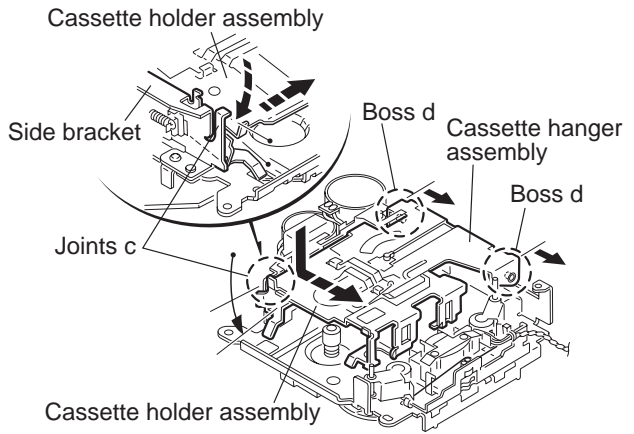

Fig.4
- (1) Remove the E-washer attaching the load arm.
- (2) Move the load arm in the direction of the arrow and release the joint **b** on the cassette catch.
3.2.3 Removing the cassette hanger assembly / cassette holder (See Fig.4 to 7)